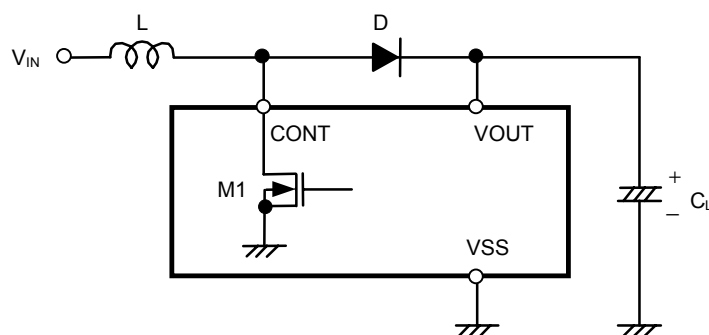

Figure 5. Step-Up Switching Regulator Circuit for Basic Equations
The following are the basic equations [(1) through (7)] of the step-up switching regulator (see **Figure 5**).